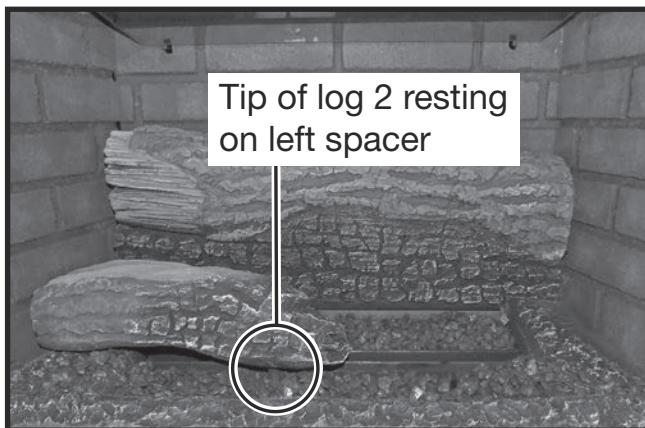

Figure 78: Log 2 positioned on left spacer.
10. Place log number two (Figure 57) so that the post protruding from the bottom of the log can be inserted into the hole of the left base piece. Then position the front of the log so that it rests on top of the left spacer (Figure 78). The log and the ember pieces should ideally hide the spacer.